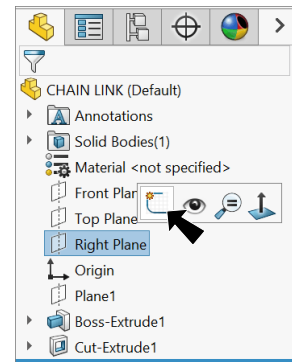

Fig. 16
Step 1. Click **Right Plane**  in the Feature Manager and click **Sketch**  on the context toolbar, **Fig. 16**.